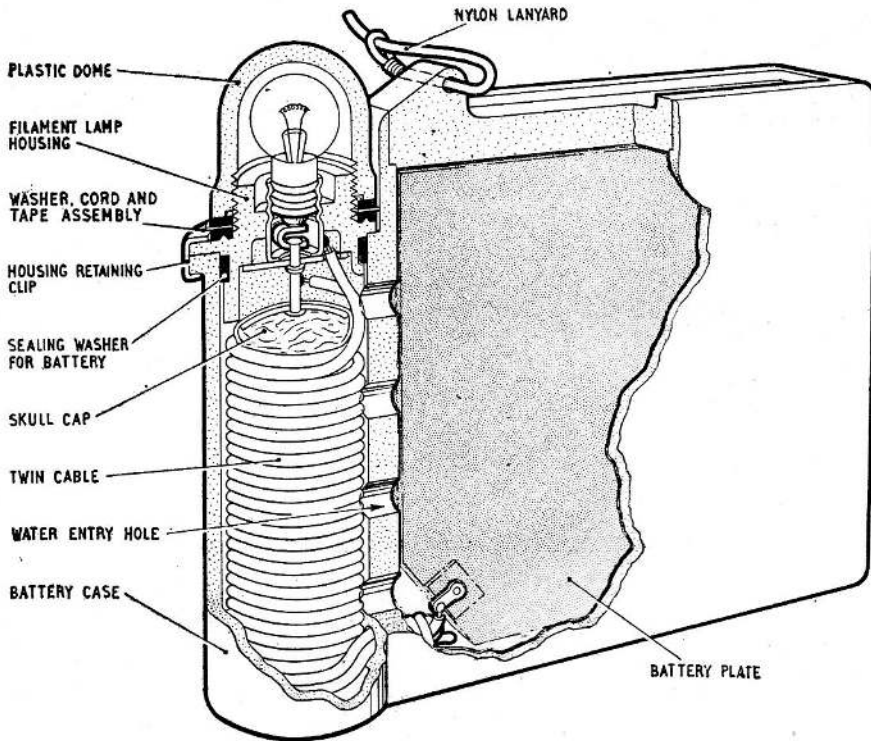

Fig. 2. Sectional view of lamp
3. The battery is of the salt water type, as described in A.P.4343, Vol. 1, Sect. 3. The plates are silver chloride and magnesium, and are activated when in contact with fresh or salt water. When the skull cap and lamp are pulled out of the case, water can enter the battery through holes in the side compartment shown in *fig. 2*, and so render the battery operative. The battery can be used only once, and has a minimum life of 16 hours at full brilliance.